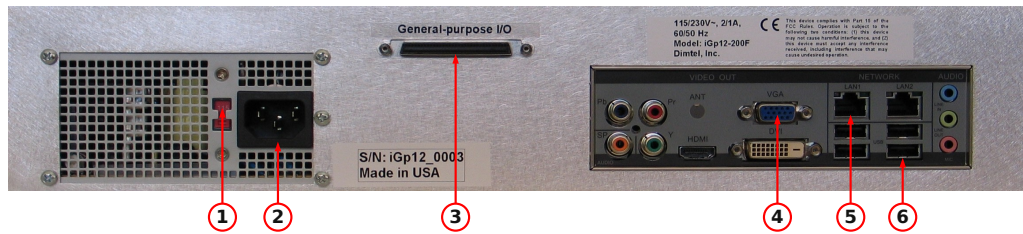

Figure 3: Rear panel features
WARNING: Before connecting power to the unit make sure the voltage selection switch (Fig. 3, item 1) is in the correct position (115 or 230 V).
1. Configure voltage selection switch (Fig. 3, item 1). Mains supply requirements for the iGp12-400F are listed in Table 10;
7. Connect a USB keyboard (Fig. 3, item 4);
8. Connect a video monitor (Fig. 3, item 5);
Setup program is included in the IOC for configuring the important features of the iGp12-400F. The program can be executed locally or remotely. For local execution one must first connect a keyboard (Fig. 3, item 4) and a video monitor (Fig. 3, item 5) to the system. For remote setup, use `ssh` after system bootup to establish connection. In both setup methods the user must login as `root` (initial password is supplied with the system). If the newly received iGp12-400F must be configured remotely (when, for example, a keyboard or a monitor is not available), such configuration can be performed using a dedicated network. Set up a network consisting of the iGp12-400F, a network hub or a switch, and a remote computer. The iGp12-400F is delivered with the following network configuration:
- Make sure no cable is connected to the general-purpose digital I/O port (Fig. 3, item 3);